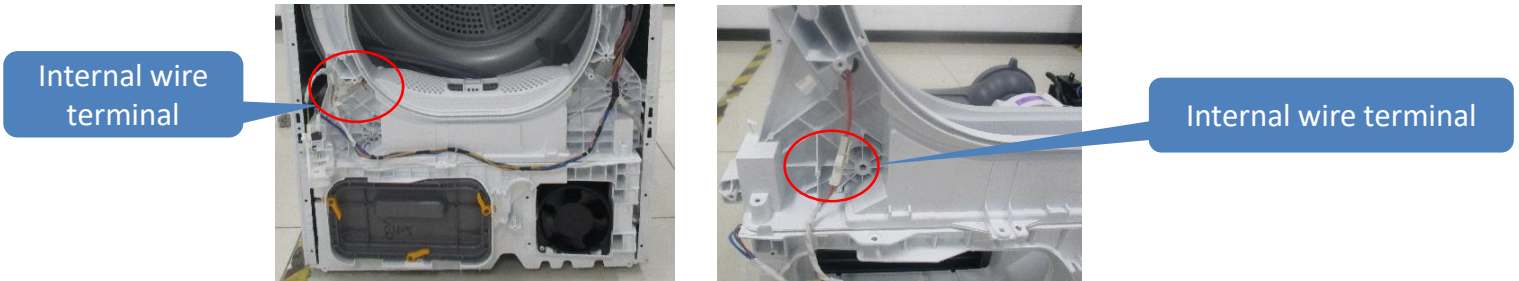

Fig.1
- ① If the connector is loosen between humidity sensor and internal wire terminal the E32 warning will occur on the power. It' s recommended that user need to confirm the connector is fixed. (Fig.1)